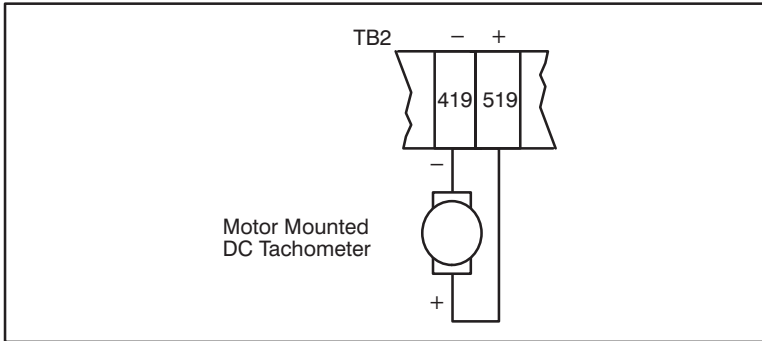

Figure 3-8. DC Tachometer Connection.
4. Connect the DC tachometer so that the tach lead connected to terminal 519 is more positive than the tach lead connected to terminal 419 for the desired direction of rotation. Refer to Figure 3-8.